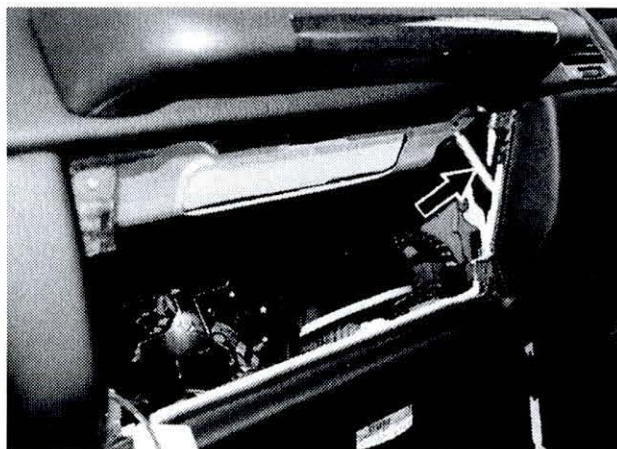

Figure 2
- For WIS Step 5: Refer to additional pictures of angle brackets (arrows, Figures 2, 3). Note position of angle brackets (arrows Figure 2, 3); angle brackets have left and right installed positions.